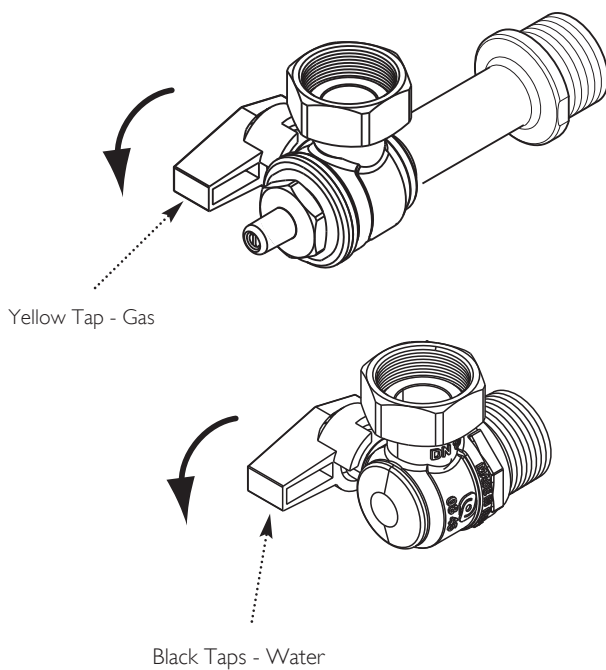

Fig. 6
1. If a water or gas leak occurs or is suspected, the boiler can be isolated at the inlet valves by turning their taps through 90° (1/4 turn) (Fig. 6).